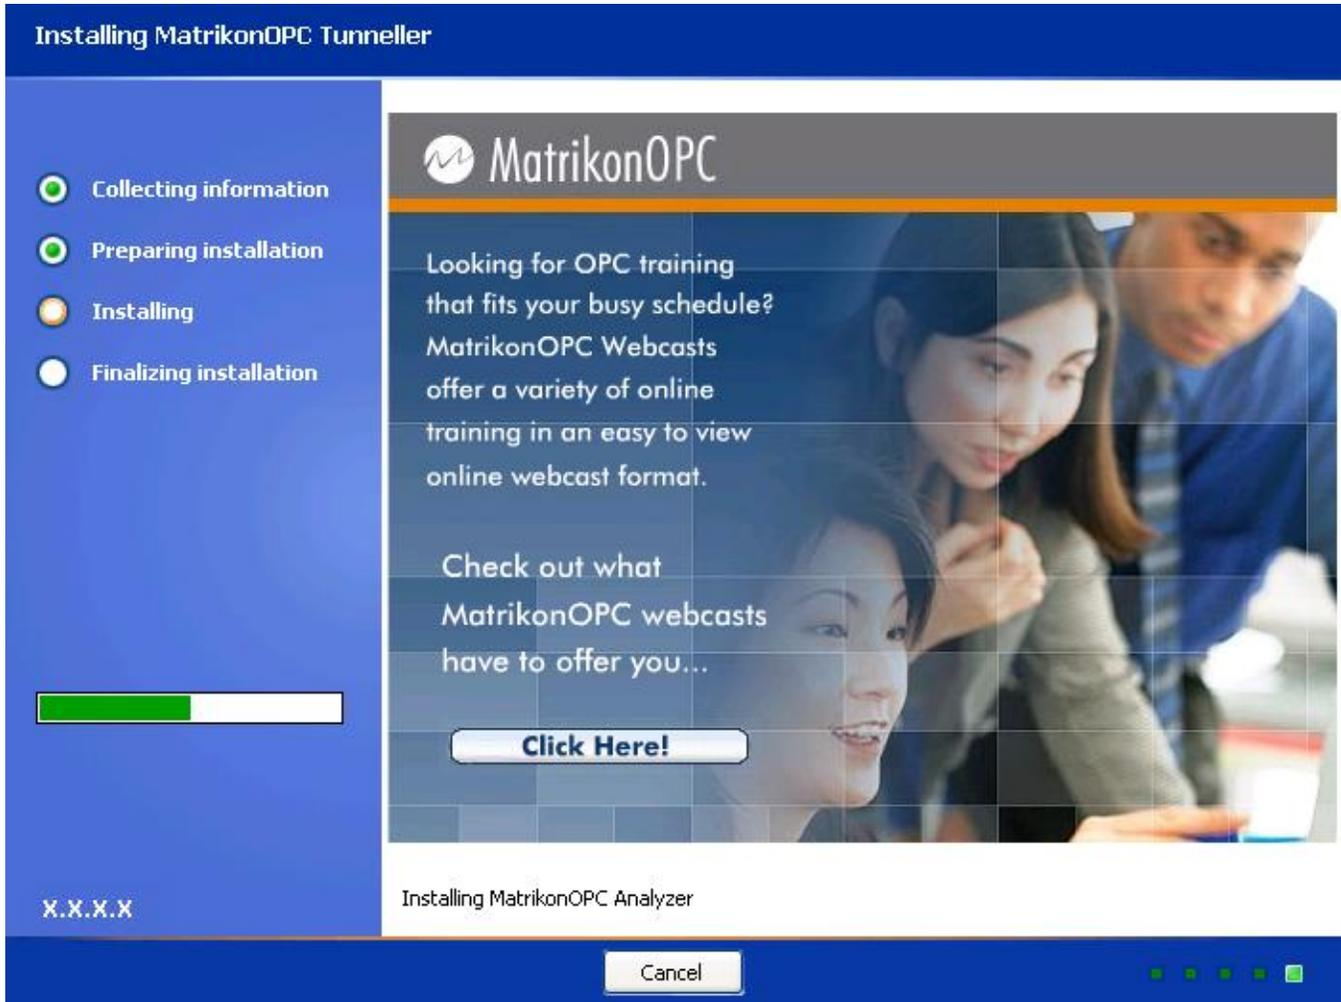

Figure 31 - Installing MatrikonOPC Tunneller Screen
21. Click on the **Next** button. The **Installing MatrikonOPC Tunneller** screen (Figure 31) appears, installation begins, and the product files are copied to the computer.